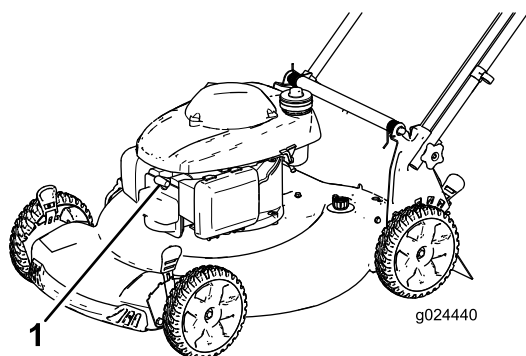

Figure 18
2. Disconnect the spark plug wire from the spark plug (Figure 18) before performing any maintenance procedure.